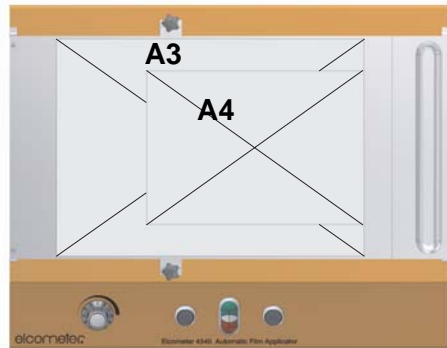

Figure 7. Substrate positioning on vacuum table
- Position the substrate on the table; A3 size substrate occupies virtually all of the table, A4 size substrate should be positioned on the right side of the table as shown (Figure 7).